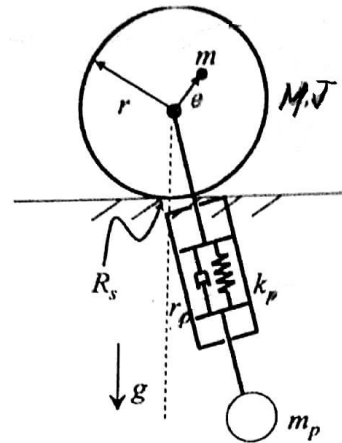

Fig. 3.
3. Draw the augmented bond graph model of the system shown in Fig. 3 and find its degrees of freedom from causality assignment. The disc has radius r , mass M , rotary inertia J and R_s is the frictional resistance at the ground contact. A small eccentric mass m is fixed to the disk at distance e from the disc center. A pendulum of mass m_p hangs from a revolute joint at the disc center. In the model, the acceleration due to gravity g needs to be considered. The pendulum rod is assumed to be mass-less and has axial flexibility with stiffness k_p and damping r_p .